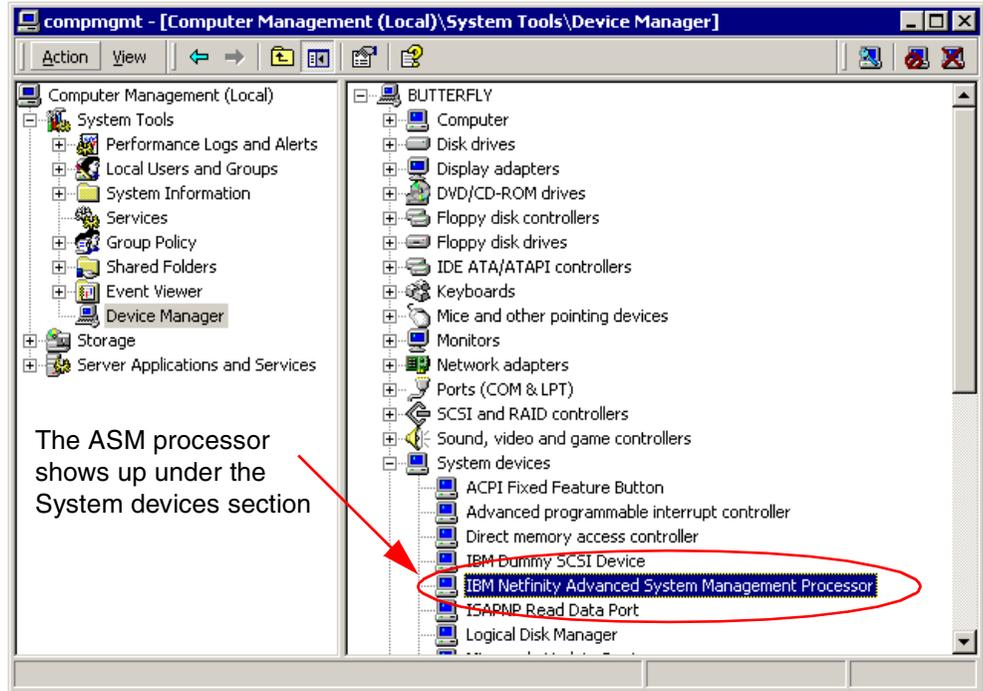

Figure 83. Device Manager: ASM processor only
- Figure 83 (ASM processor only)